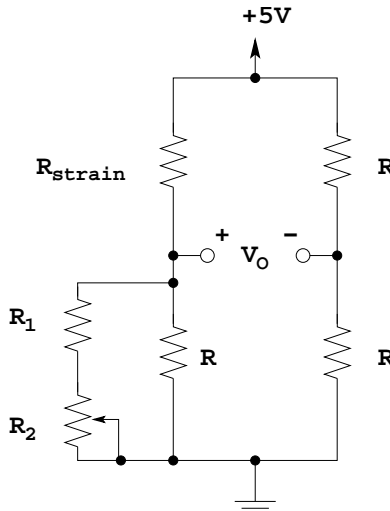

Figure 4.
3. Consider Wheatstone bridge in Figure 4 (ignore R_1 and R_2 initially). This simple four resistor circuit has been used for many years to convert a change in small resistance to a proportional change in output voltage.